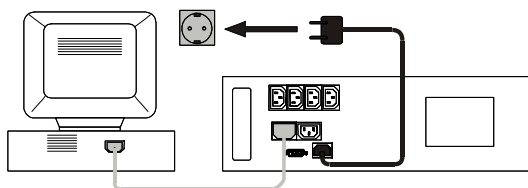

fig. 4
6. Connect the mains cord of the UPS to a working, grounded AC wall socket outlet. See fig. 4. The green LED 'on' (7, fig. 6) will blink: power is available and the batteries are charging. If the LED does not blink, press 'I' briefly. Probably LED 'replace battery' lights up; the LED goes out as soon as the batteries have been charged.